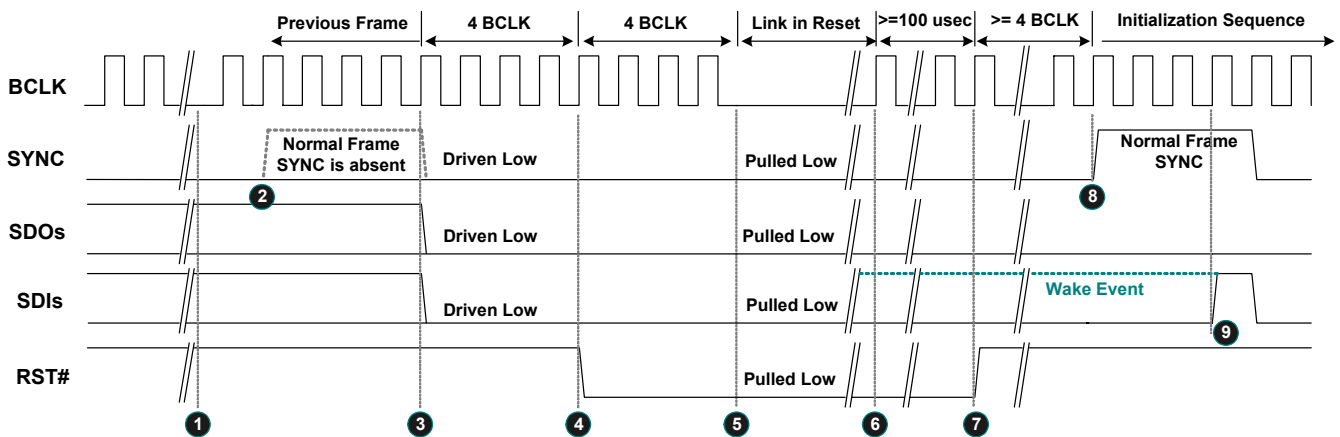

Figure 13. Link Reset Timing
3. Software initiates power management sequences. Figure 13, page 19, shows the 'Link Reset' timing including the 'Enter' sequence (①~⑤) and 'Exit' sequence (⑥~⑨)